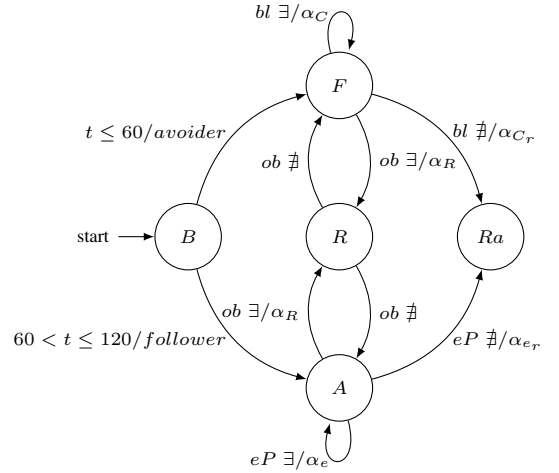

Fig. 1: Mealy DFSM of the controller
The DFSM diagram in Fig. 1, which is defined by (1), starts in the Behaviour state where the robot is set as *avoider* while the time simulation is $t \leq 60[s]$. During that time, the Foraging state looks for the green blobs with the Search blob/ePuck algorithm while avoiding obstacles using the Rebound algorithm. Moreover, a Random Movement state is used to introduce randomness to the system so the agent can take different paths if there is no blob or obstacle detection. For $60 < t \leq 120$, the Behaviour of the robot is set to *follower* and switches to Random Aggregation state where it uses both algorithms, the Rebound to follow ePucks with the proximity sensors and the Search to look for the closest ePuck wheels. For both algorithms, the output is the angle of attack α_n , where n depends on the current state.